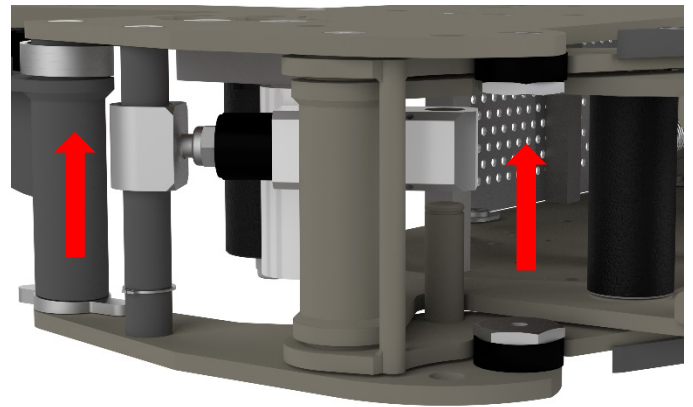

Figure 10-7
2. Slide off the repulsive pivot assembly from current position as shown in **Figure 10-7**.